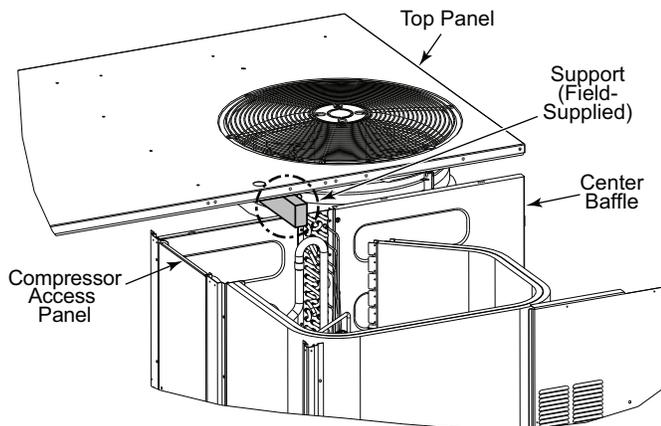

Fig. 14 – Top Panel Position
3. Lift and rotate the top panel at the condenser fan end and rotate the panel 90 degrees. Support the top panel so it remains level while resting on the condenser fan as shown in Fig. 14.